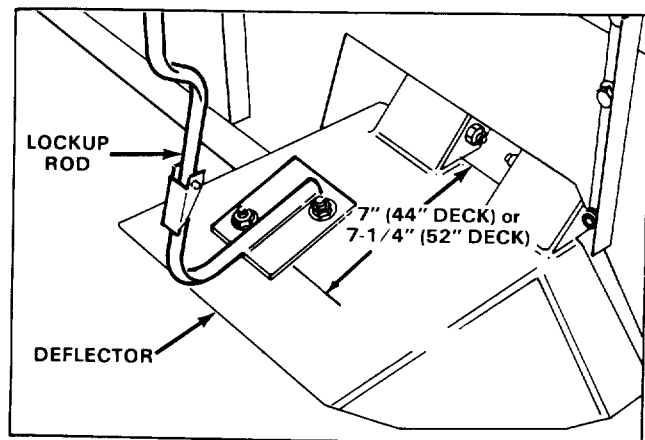

Figure 6
5. On 52" bagging kits, secure front beam to carrier frame with (2) 3/8- 16 x 2-1/2" lg. capscrews, (4) flatwashers and (4) flangenuts. Secure rear beam to carrier frame with (2) 3/8-16 x 4-1/2" lg. capscrews, (4) flatwashers and (4) locknuts. Washers to be positioned on top of beam and under carrier frame.
6. Measure 7" (on 44" deck) or 7-1/4" (on 52" deck) from edge of deflector and draw a parallel line (Fig. 6).
7. Using lockup rod as a template (Fig. 6), mark and drill (2) 11/32" dia. holes in deflector. Secure lockup rod to deflector with (2) 5/16-18 x 3/4" capscrews and 5/16-18 flangenuts. Position flangenuts on top.